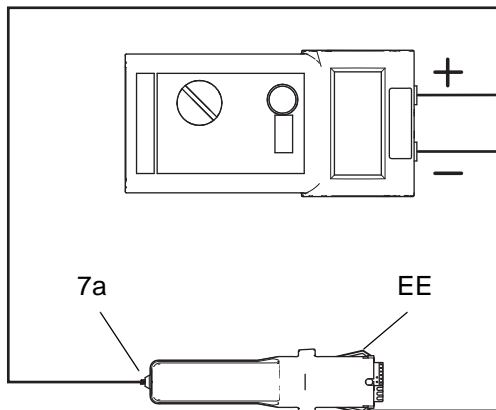

FIG. 22 . Test Power Supply Resistance
1. Remove the power supply (7), page 47.
2. Remove the turbine alternator (8) from the power supply, page 48.
3. Measure resistance from the power supply's ground strips (EE) to the spring (7a). See FIGURE 22.